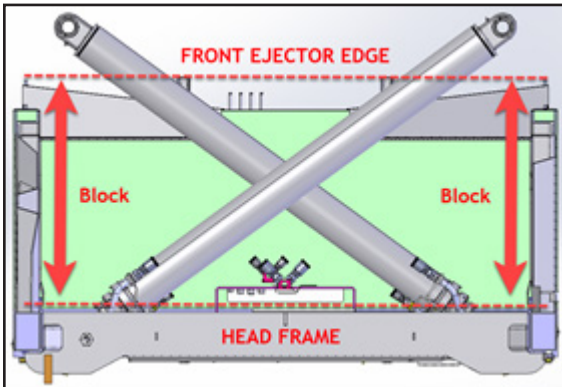

Figure 2
3. Securely block the ejector on both sides of the hopper to prevent it from returning home (Figure 2).